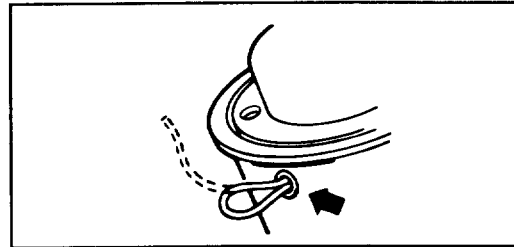

Figure 8
3. After each use, either retape or loop the line through the eyelet (Fig. 8) to prevent unraveling.